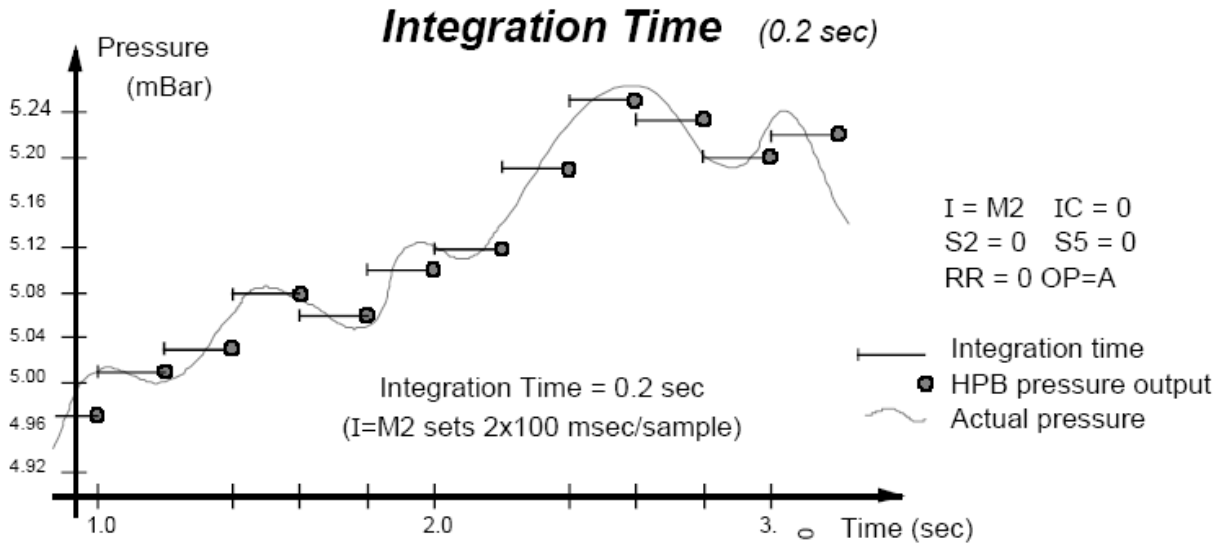

Figure 4.5—Integration (I=) Command, Example 1
**First**, the internal analog-to-digital converter integration time may be controlled over a range of 1 sample every 12 seconds up to 120 samples per second. This is controlled using the 'Integration' (**I=**) command. The integration time is used to control the A/D integration cycle that allow noisy pressure inputs to be filtered, or averaged, over a selected period of time. See Figures 4.5 and 4.6. The integration time can be set within a range of 1 to 120 samples/sec using the **I=Rn** form or a range of 100msec to 12 sec/sample using the **I=Mn** form. The values for 'n' range from 1 to 120 for both the rate (**Rn**) form and the millisecond (**Mn**) form.
The figures below illustrate the commands that affect the pressure output rate. Figure 4.5 shows a varying pressure signal having a reading integration time of 200 msec. If the small variations on the pressure signal are considered noise and are undesirable, increase the integration time to time-average the pressure signal, and filter out the noise.